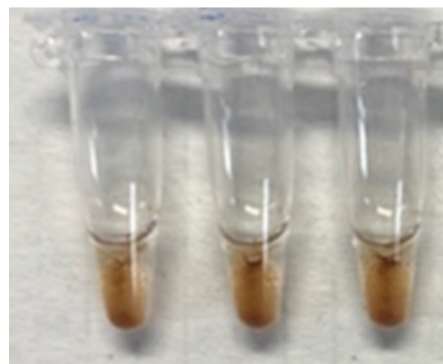

FIGURE 8
31. Remove tubes from 4°C incubation and quick spin to collect liquid. Note that beads may settle overnight (Figure 8), but this will not impact results.